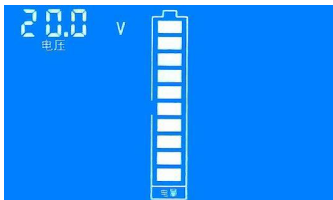
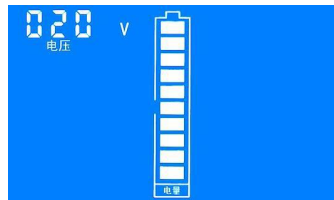

Figure 3: full voltage setting interface (low bit)
Figure 4: full voltage setting interface (high bit)
Step 2: SET character blink present it is the setting status of full / cut-off voltage, long press the button until the LCD screen display the interface like fig. 3, then release the button.
Step 3: At this time, the battery symbol display full grids energy means the full voltage setting status, factory default the full voltage is 020.0V, the numerical code circulation flashing from the low bit to the high bit show that the current setting digit, short press to set the digit; please pay attention that, as the full voltage setting value has 4 digit, but the numerical code has only 3 digit, So the setting is divided into two parts: low bit (fig. 3) +high bit (fig. 4). For example, the default full voltage is 020.0V, then the display state is 20.0V to 020V low and high cyclic switching display. If you need to set the full voltage is 199.0V, then please set the low bit to 99.0V, when the cycle reaches the high bit, it will display 099V, and only the highest zero bit flicker to prompt it can be setted. Setting the high bit to 199V represents the full voltage is 199.0V.